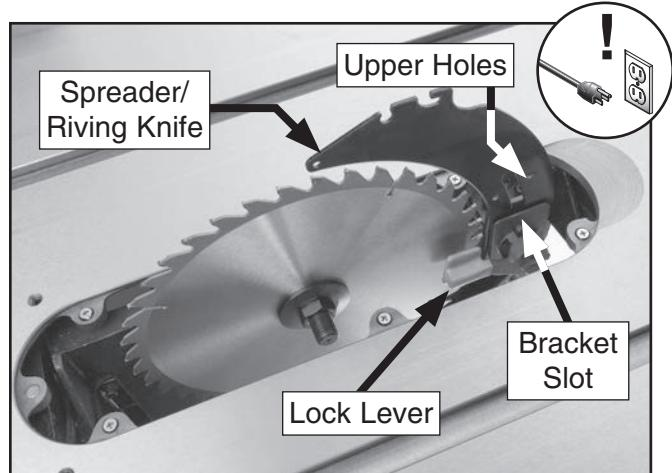

Figure 57. Lock lever used to secure spreader.
4. Insert *upper* set of holes on spreader/riving knife into bracket slot and tighten lock lever to secure spreader/riving knife (see **Figure 57**).